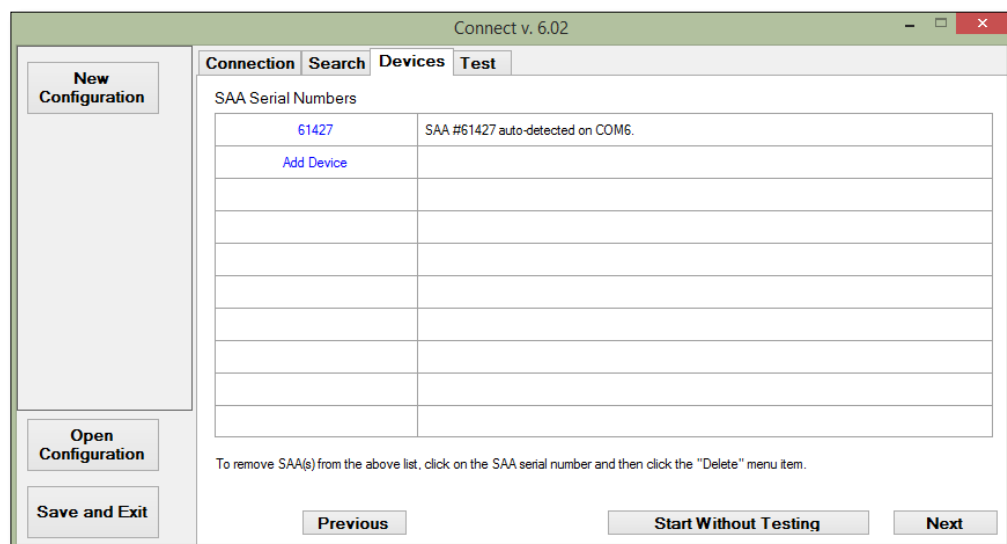

Figure 6.14: 'Device Connection' window.
2. Some devices are not automatically detected, the 'DeVICES' tab is where they would be added manually, the window should look similar to **Figure 6.14**.